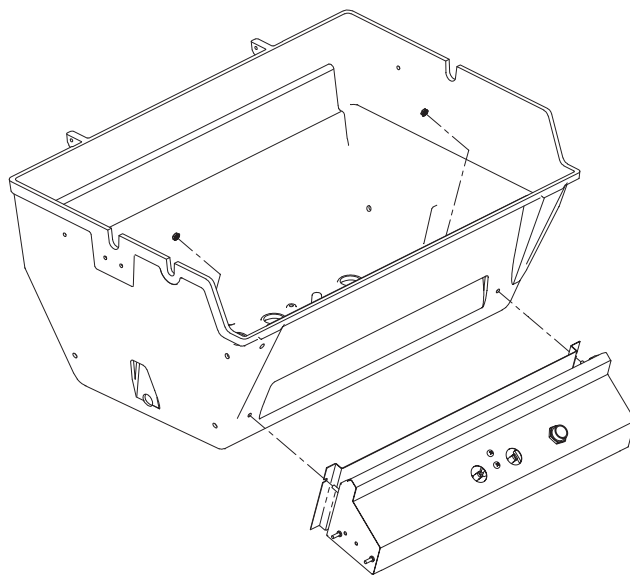

Figure 7
Attach radiation shield control panel assembly to grill bottom with two (2) 10-24 keps nuts. See Figure 7.